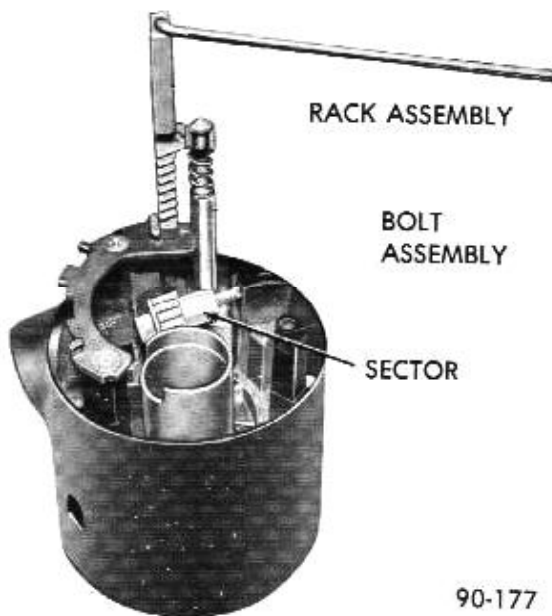

Figure 90-90 Removing or Installing Rack and Lock Bolt
17. Remove the rack and lock bolt. See Figure 90-90.